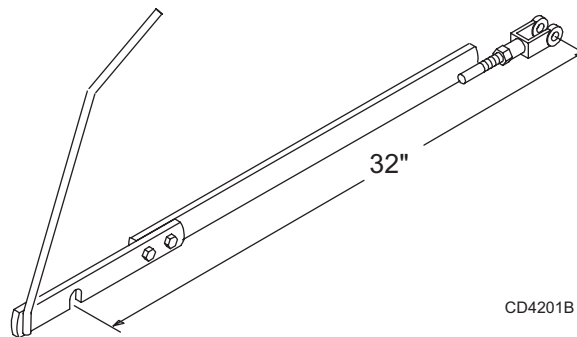

Figure 27 Lock-Up Bar Length
- Slide lock-up bar (2) into left front lift stop (1).
- Attach lock-up bar extension (3) using 1-1/4" hex bolts (10) and 3/8" locknut (9).
- Thread 1/2" jam nut (8) and clevis yoke (5) onto lock-up bar to obtain the 32" dimension shown in Figure 27. Hand tighten jam nut (8) against clevis yoke (5).